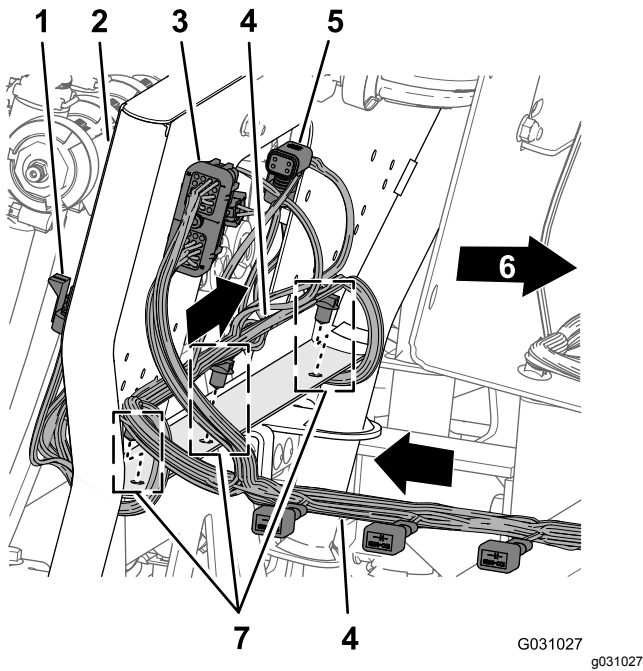

Figure 107
1. Route the 218.4 cm (86 inches) wire harness branch across the back of the 10-valve mount with the 10 connectors for the nozzle valves rearward and below the valves (Figure 107).
2. Insert the push-in fasteners of the 218.4 cm (86 inches) wire harness branch into the holes in the lower flange of the 10-valve mount (Figure 107).